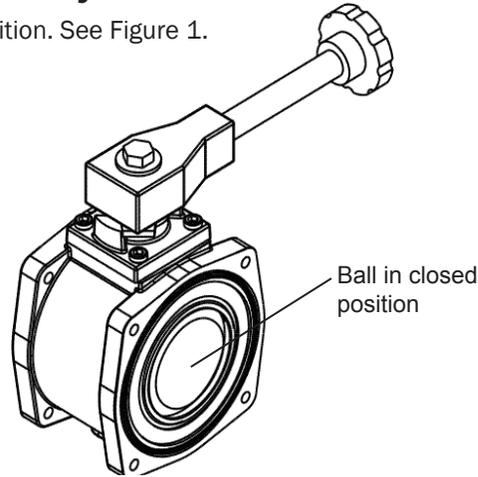

Figure 1
A) Move valve to close position. See Figure 1.